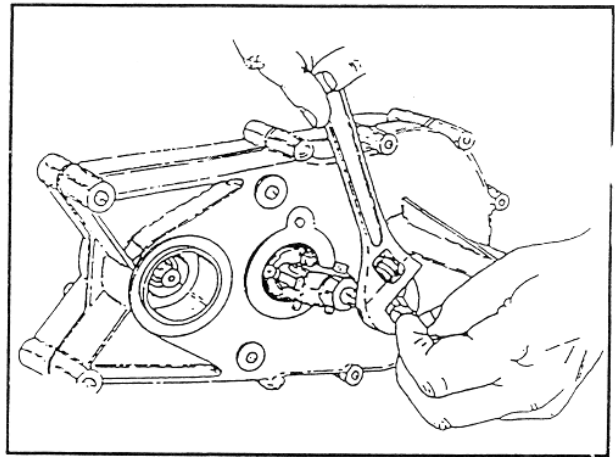

FIGURE 6
- 4.03 Couplings (#51) may seize to shaft splines and thus a puller is recommended. See figure 6. Tapping couplings lightly may be necessary for removal.